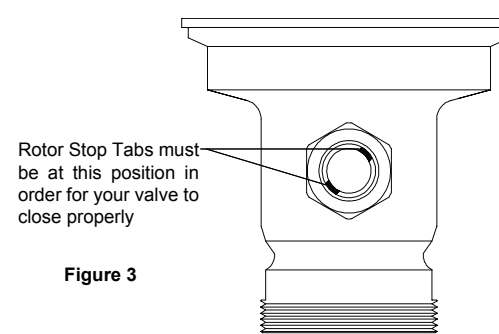

Figure 3
- **O-ring-** In order to check this part for wear, it is necessary to (1) remove the handle, rotor nut and rotor. The O-ring is the small black rubber ring located on the rotor arm itself. Important: If while pulling the rotor arm out, the rotor stop is accidentally removed, it must be put back with the tabs in their original position in order to stop the handle in the proper position. See Figure 3